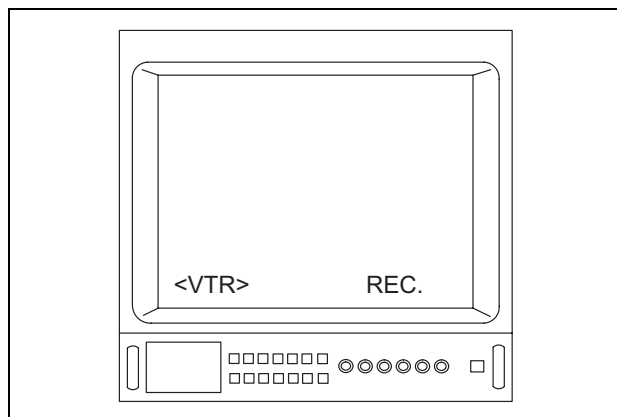

Figure 5.87
2. To begin VTR recording, press the remote control switch on the camera head or videoscope. The menu shown in Figure 5.87 is displayed on the video monitor.
2. To begin VTR recording, press the "F5" key. The menu shown in Figure 5.87 is displayed on the video monitor.